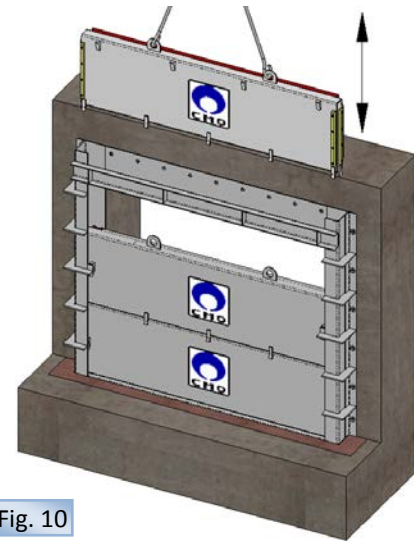

Fig. 10
- Modular penstocks (fig. 10):